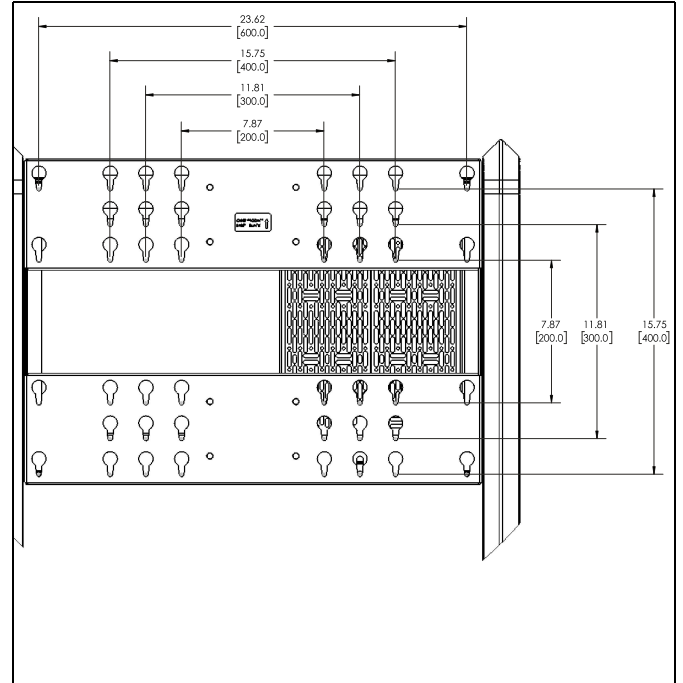

**Figure 9**
**IMPORTANT ! :** The M8 screws do **NOT** require a washer. Use the universal washer (H) only with M4, M5 and M6 screws.
**NOTE:** The nesting spacers (G) may be used separately, or put two together in different configurations to create different size spacers. (See Figure 9)